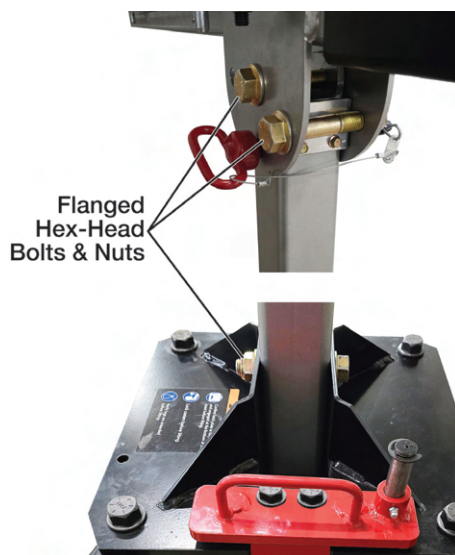

Figure 8-6: Flanged Hex-Head Bolts & Nuts Locations
5. Inspect the three flanged hex-head bolts and nuts that attach the square tube to the base assembly and the mast pivot bracket. Make sure they are in place and the nut is tight (see Figure 8-6).